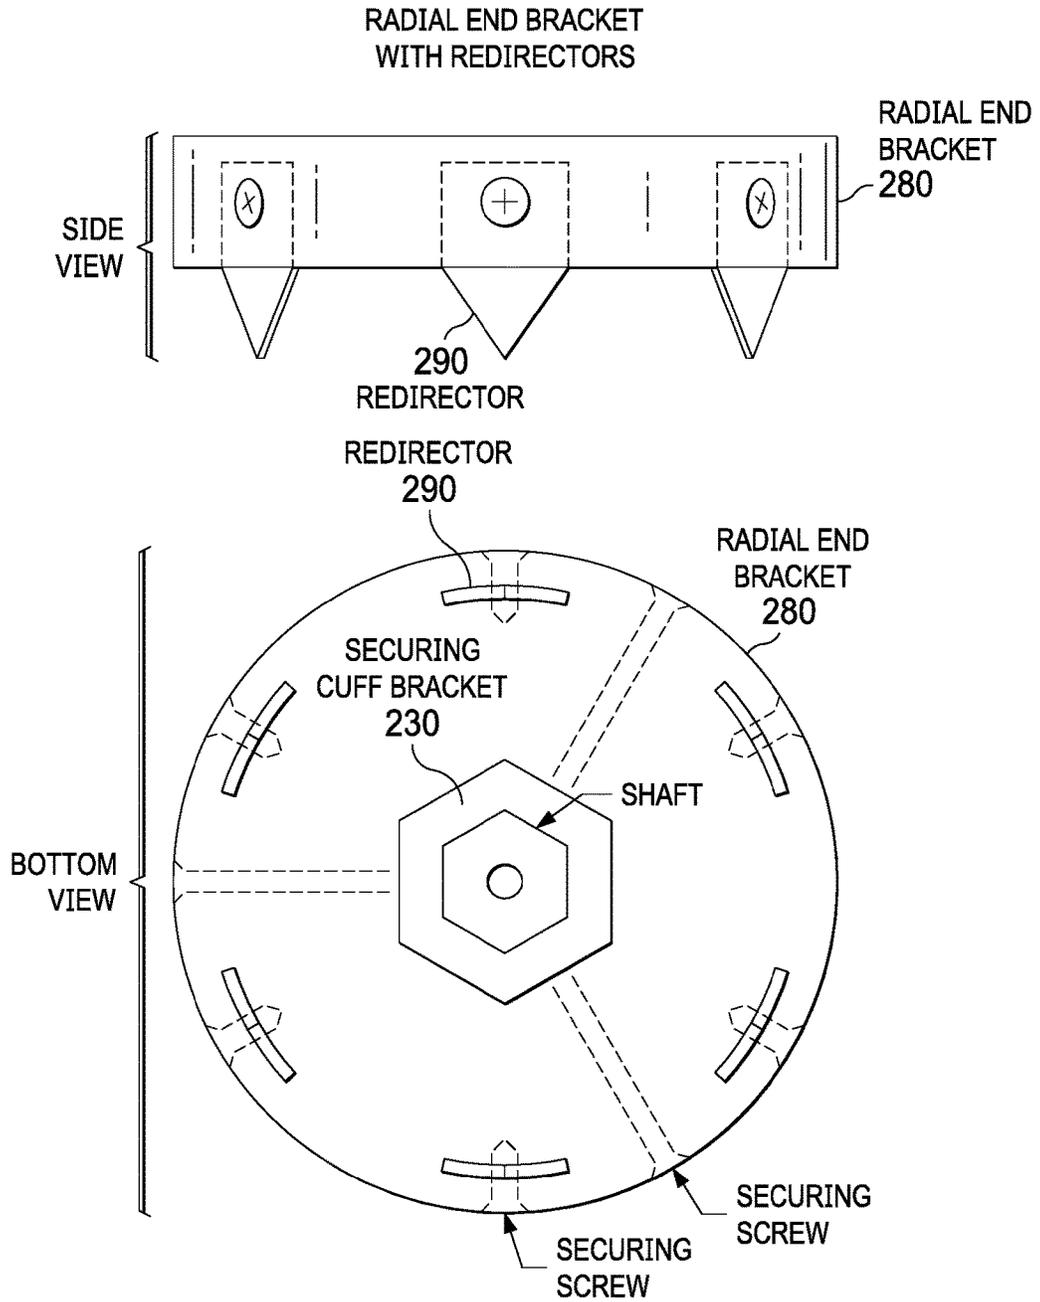

FIG. 12
**[0020]** FIG. 12 shows the radial end bracket with redirectors;